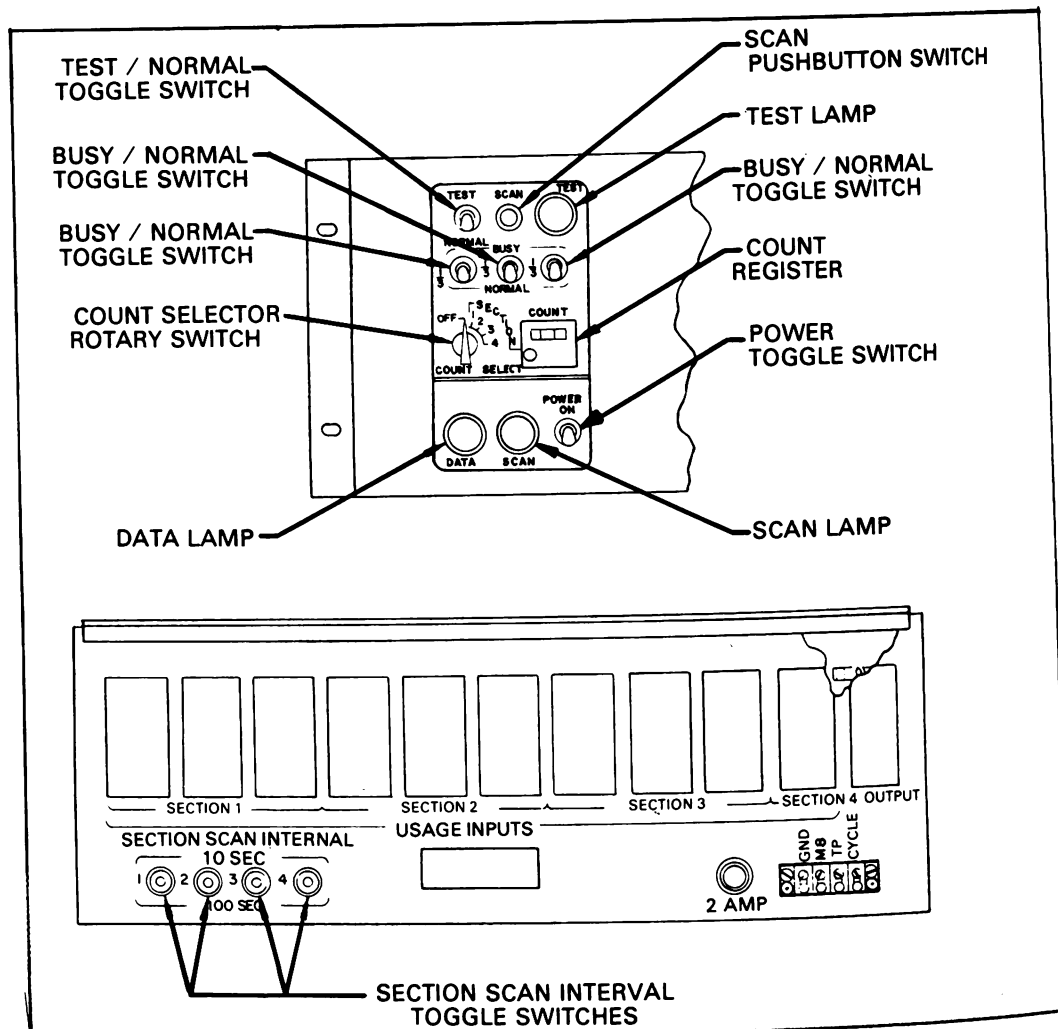

Figure 1. Operator's Controls and Instruments,
2. Examine the scanner to insure that all controls are set at the preliminary settings. (Refer to TM 11-5805-640-13, para 2-8 thru 2-9, p 2-4, fig 1.)
Set the POWER switch at ON. (Illumination of the SCAN indicator lamp demonstrates proper functioning.) (Refer to TM 11-5805-640-13, para 3-4a, p 3-2, fig 1.)
Check the TEST lamp. (Extinguished TEST lamp is normal. If the TEST lamp illuminates, one or more of the BUSY/NORMAL switches is set at BUSY. All BUSY/NORMAL switches will be set at NORMAL.) (Refer to TM 11-5805-640-13, para 3-4c, p 3-2, fig 1.)
- Set the four SECTION SCAN INTERVAL switches. (The switches will be set in accordance with the supervisor's instructions or local operational requirements.) (Refer to TM 11-5805-640-13, para 3-4d, p 3-2, fig 1.)
- Check the operation of the yellow SCAN lamp. (Continuous illumination of the yellow SCAN lamp indicates no scanning is occurring. Five-second on cycle and five-second off cycle of the SCAN lamp indicate that a scan is in progress.) (Refer to TM 11-5805-640-13, para 3-4e, p 3-2, fig 1.)